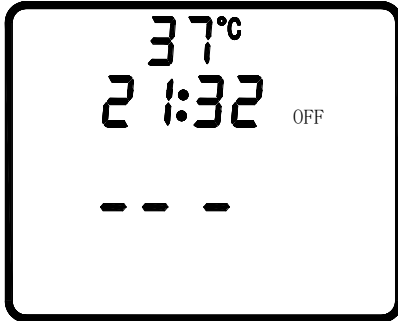
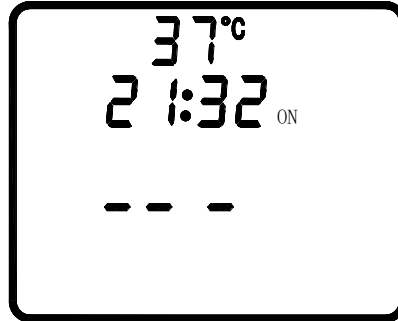

Fig. 9: Preheating can't be set up
Fig. 10: Preheating can be set up
1) When A1=OFF, the preheating can't be set up (Fig. 9), when A1=ON, the preheating can be set up, LCD is showing "ON" at this time (Fig. 10).